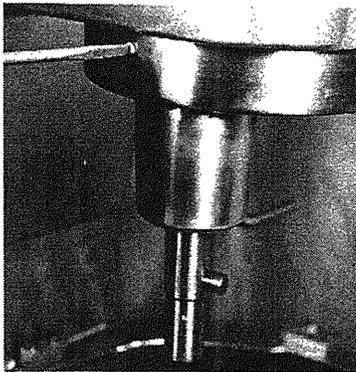

Fig. 2-1
- A. Remove the drip cup (Fig. 2-1). On early models it was held on by screws as shown in picture. Later models use thumb screws.